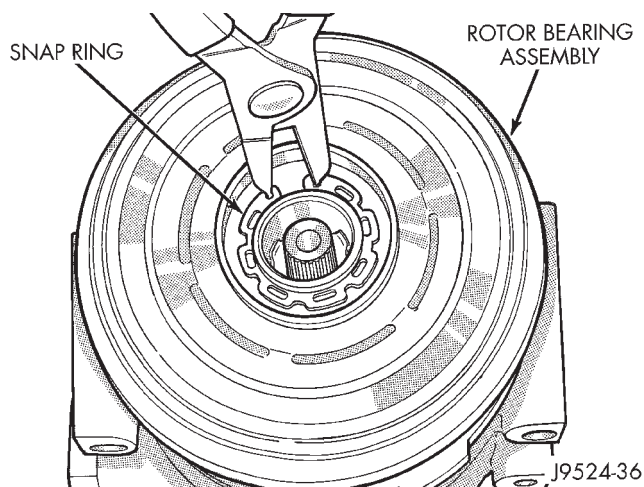

Fig. 28 External Snap Ring Remove/Install
(6) Remove the external snap ring from the front compressor housing hub with snap ring pliers and remove the clutch rotor and bearing assembly (Fig. 28).